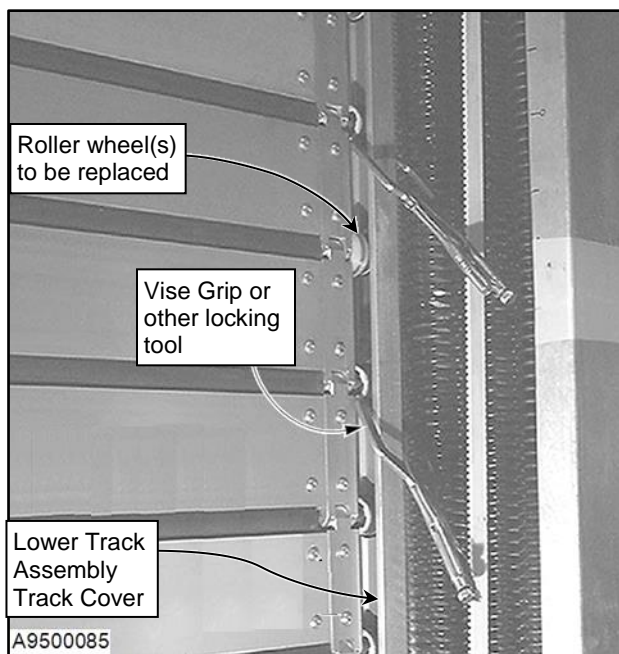

Figure 81
4. Position clamps along both edges of the door above the Lower Track Assembly track cover to be removed for roller wheel/guide wheel replacement to prevent unexpected door movement as shown. (See Figure 81)